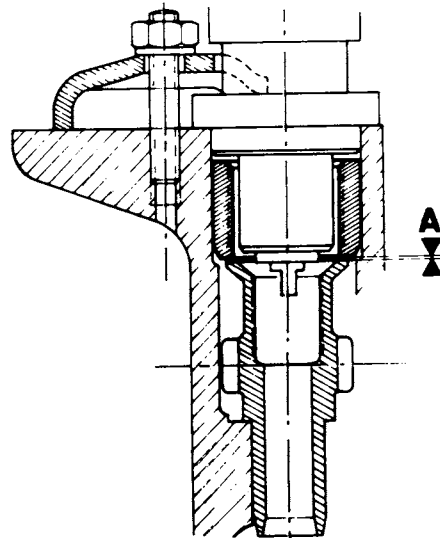

FIGURE 50. DRIVE GEAR AND SLEEVE CLEARANCE
Lift out the assembly mandrel and the guide shaft. Screw the spindle into the drive gear and check clearance (A) between the drive gear and the sleeve (Figure 50).